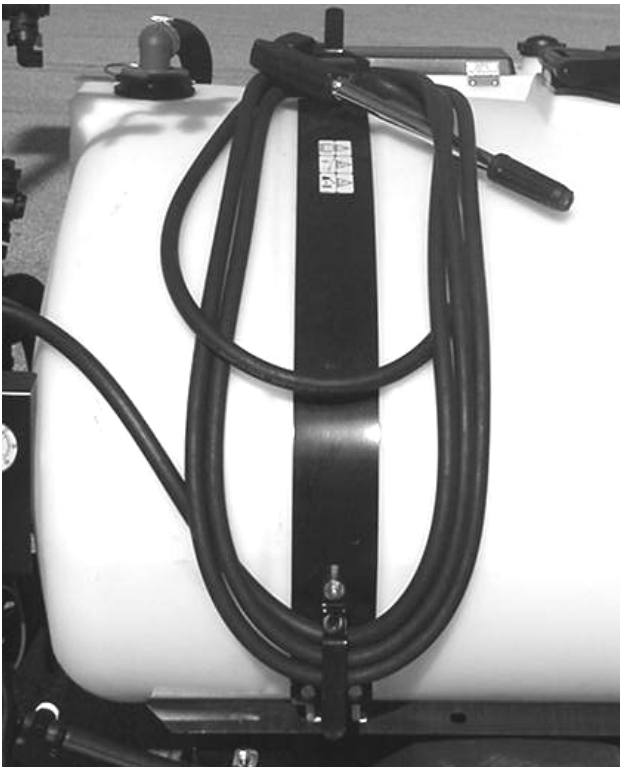

Figure 16
2. Wrap the hose around the hooks on the tank and secure the gun as illustrated in Figure 16.